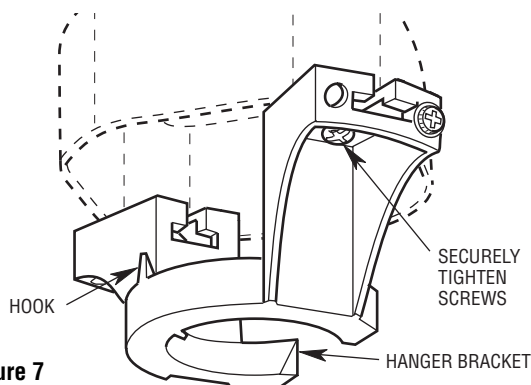

Figure 7
2. Slide the hanger bracket onto the outlet box screws. Center the bracket over the outlet box and then securely tighten the screws (Figure 7).